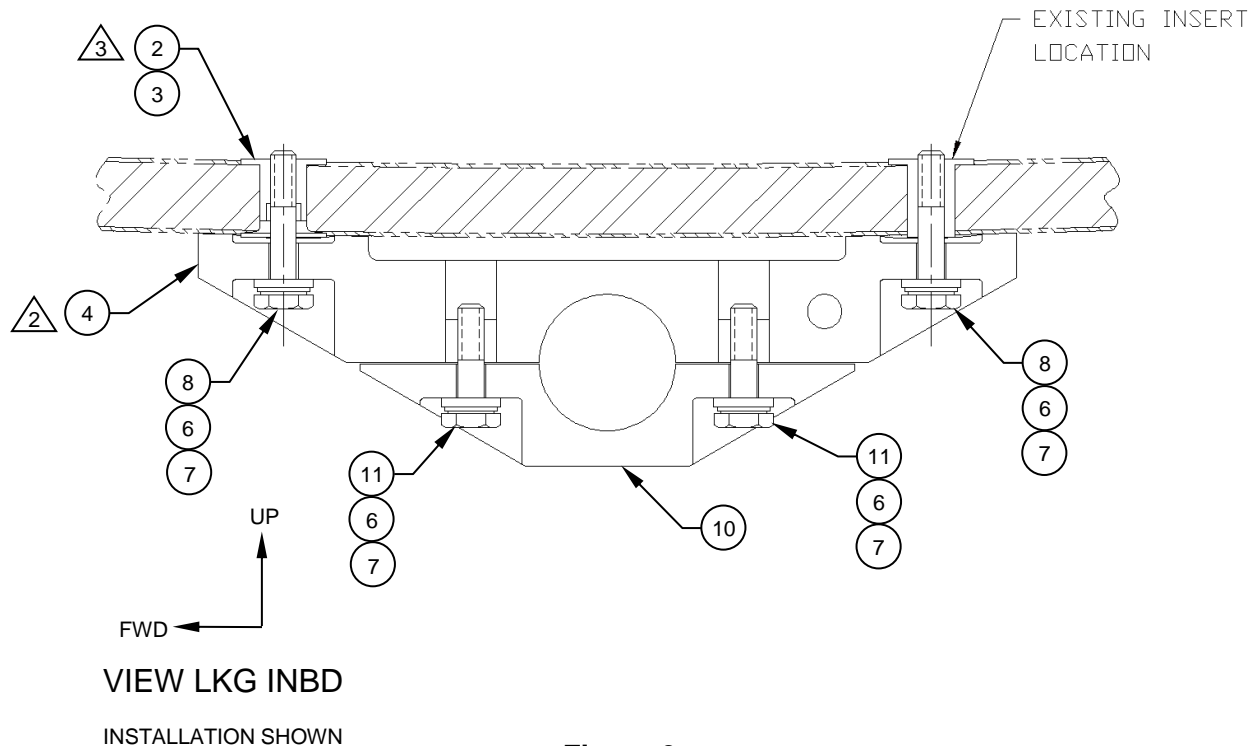

Figure 3
5. Lay the Crosstube, Assy (Item 9) into the slots in the Mounting Block, Assys (Items 4 & 5). Reference Figure 3.
6. Align Crosstube, Assy (Item 9) perpendicular to aircraft butt line axis and position the mounting blocks according to the dimensions shown. Reference Figure 3.
8. Install the supplied fasteners in the Mounting Block, Assys (Items 4 & 5) and add a fillet of Sealant (Item C02) around the edge of each Mounting Block, Assy. Reference Figures 3 & 4.
10. Loosely attach the Crosstube, Assy (Item 9) to the Mounting Block, Assys (Items 4 & 5) with the Cap, Details (Item 10) and the supplied hardware. Reference Figures 3 & 4.